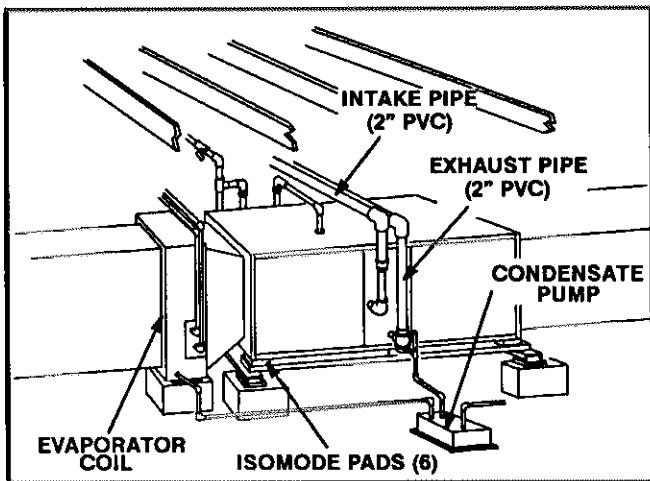

FIGURE 13
- 2- After positioning cement blocks, mount support frame kit (ordered separately) on top of blocks and install unit on frame. Slide six isomode pads between cabinet and support frame. See figure 13. Unit must be level to ensure proper coil drainage.
- 3- Install exhaust and intake piping according to information given in following section. Condensate line should be run into condensate pump. See figure 13.